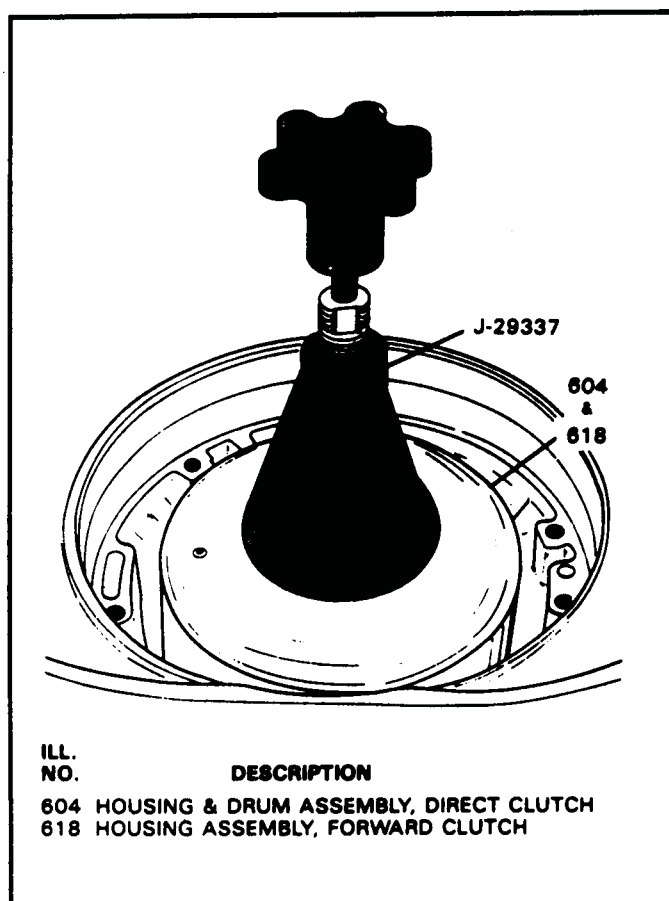

Figure 98
41. Position the direct and forward clutch housing assemblies with the forward clutch shaft facing up, and install tool J-29337 to prevent housings from separating (See Figure 98).
42. Using the tool as a handle, install both clutch housing assemblies into the transmission by rotating back and forth until they are seated. (See Figure 98).
43. Remove the tool J-29337 from the direct and forward clutch housings (See Figure 98).